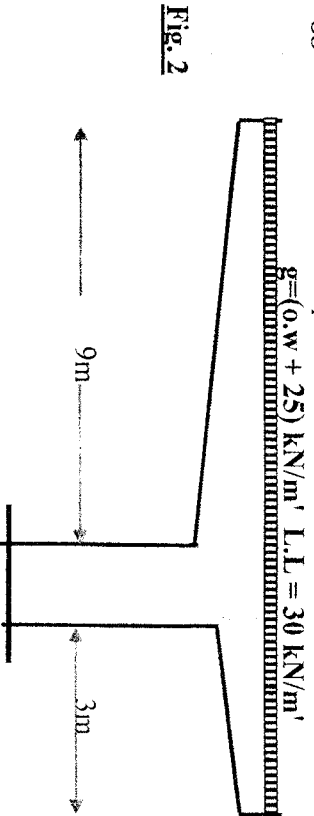

Fig. 2
1. Fig. 2 shows a statical system of RC frame intended to be constructed with post-tensioned full pre-stressed technique. It is required to carry out the followings: